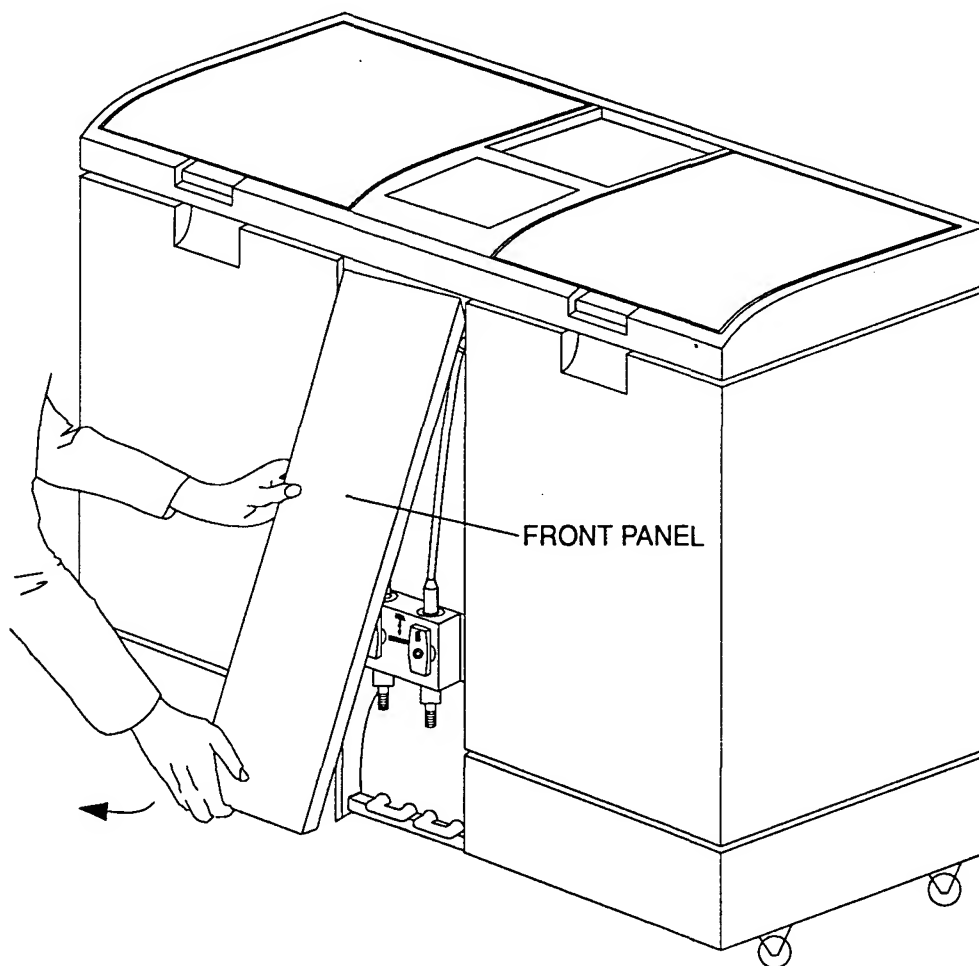

figure 5-1
1. Remove the FRONT PANEL of the AUTOMIXER II Plus (figure 5-1).